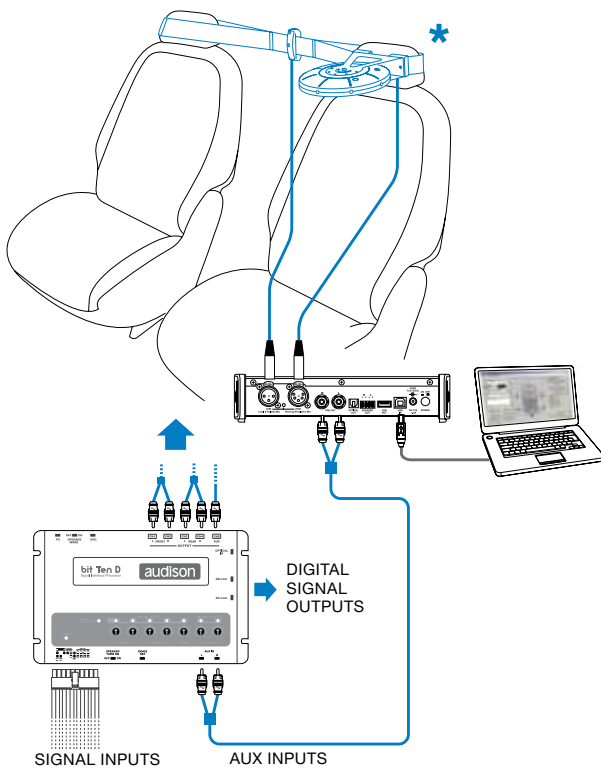

Fig 1.
1. Connect the bit Tune to the Audison bit processor, as shown in fig. 1 or 2 (see points **A** and **B**). The AUTO EQ+ AUTO TIME ALIGNMENT procedure must be performed in an environment that is not noisy, with the car's engine off, air conditioning off, doors and windows tightly closed and radio frequency devices away from the car's passenger compartment.